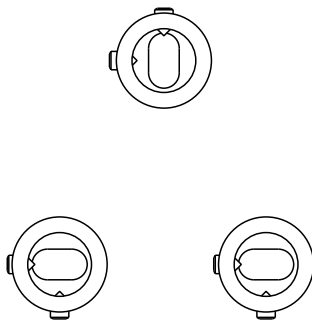

fig 1. Bracket Positions
- Fit air vent (A).
- Depending on radiator height, drill three holes to a minimum depth of 65mm & insert wall plugs (B).
- Attach brackets (C) to wall with screws (D).
- Position brackets (C) on wall with grub screw holes as shown in figure 1 for maximum rigidity before tightening screws (D).
- Hang radiator onto brackets (C) by inserting lugs into brackets (C).
- Tighten grub screws (E) with Allen key (F).